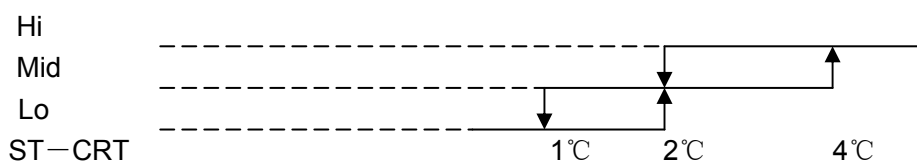

Figure 2 Heating automatic airflow
- indoor fan motor's the automatic airflow speed control Indoor fan motor can operate by automatic, as shown in Figure 2: